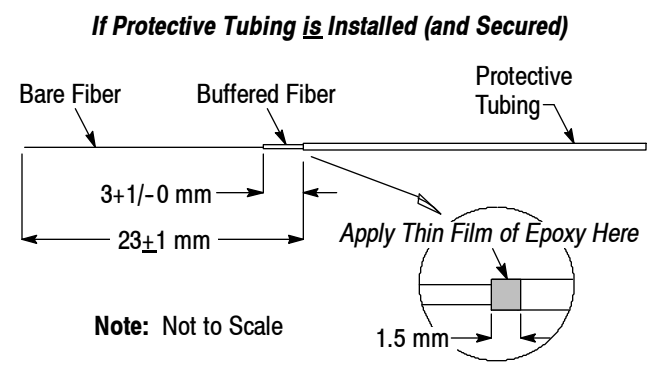

Figure 4
- c. Mark the protective tubing to the dimension shown in Figure 4. Using Slot 22 of the fiber jacket stripper, strip the tubing to the marking.
- d. Using the fiber stripping tool, strip the buffered fiber to the dimension shown in Figure 4, exposing the bare fiber. Using a lint-free tissue or cloth dampened with the isopropyl alcohol or acetone, clean the bare fiber.
- f. Apply a *thin film* of epoxy around the outside edge of the tubing to the width given in Figure 4.